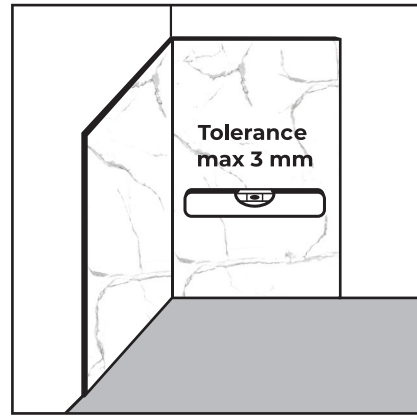

Figure 2
1. Check the flatness of the wall you are installing the panels on using a 5' level (Figure 2). The maximum allowable tolerance is 1/8 inch, anything more should be filled with some filler material that is fixed to the wall to even it out. Also check that the wall surface you are installing onto is dry and free of moisture. Clean all dust, grease or any other substance that may compromise the adhesion of the panel to the wall.
2. Be aware that every box has two panels. To have an optimal design view, these two panels have to be installed one on the top of the other, making the design continuity as shown in the (Figure 2).
1. Vérifiez la planéité du mur que vous installez les panneaux à l'aide d'un niveau de cinq pieds (1,5 mètres) (Figure 2).
2. Sachez que chaque boîte a deux panneaux. Pour avoir une vue de conception optimale, ces deux panneaux doivent être installés l'un au-dessus de l'autre, assurant la continuité de la conception comme indiqué sur la (Figure 2).